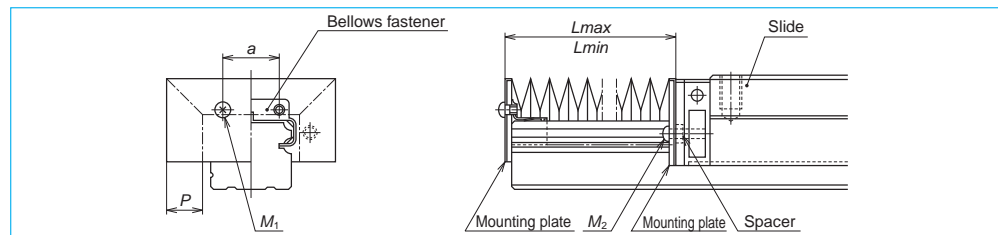

Fig. 6.7
##### \* Installation in the ball slide (Fig. 6.7)
- Remove two machine screws ( $M_2$ ) which secure the end seals to the end of the slide (Fig. 6.7). For LS15, hold the end cap by hand. Otherwise, the end cap is detached from the ball slide, and the balls inside may spill out.
- To install bellows for SH, SS, LH and LS Series, lightly knock a fastener exclusively for bellows to the end of the rail (Fig. 6.7). Then secure the mounting plate at the end of the bellows through the tap hole of the fastener.